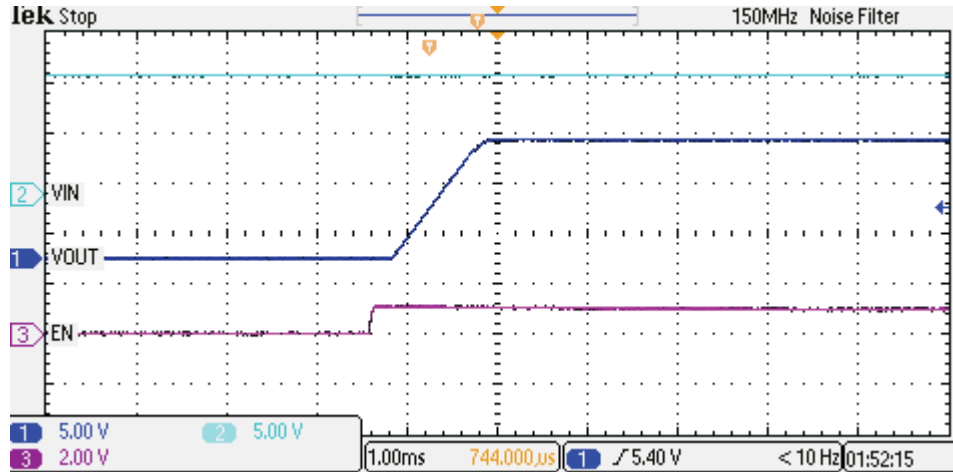

Figure 3. Vout Ramp up Time for CH1
- Turn off the power supply. Hook up CH1 and CH2 of the PWR635 assembly as shown in Figure 3.
- Set the output load at 100Ω on CH1 and then enable the load. Turn on the power supply, press the EVM RST switch (S1) and release, and verify that VOUT1 (TP2) ramps up as shown in Figure 3.